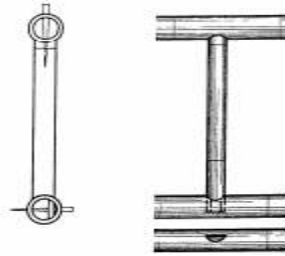

Fig. 10 Single dowel
- ✓ It is important that the straight side of semicircular mortise must be parallel with the direction of bamboo fiber, otherwise the connection will be failed (Fig. 10).